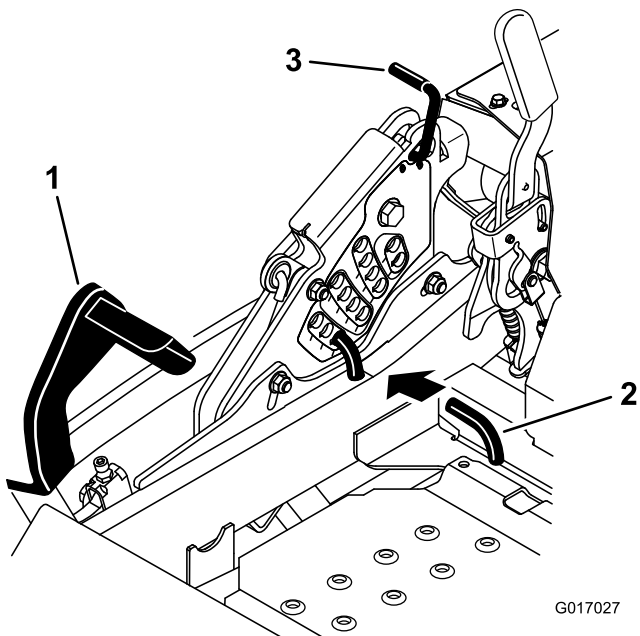

Figure 89
5. Push the deck lift pedal all the way forward and the deck will latch at the 14 cm (5-1/2 inch) transport position (Figure 89).